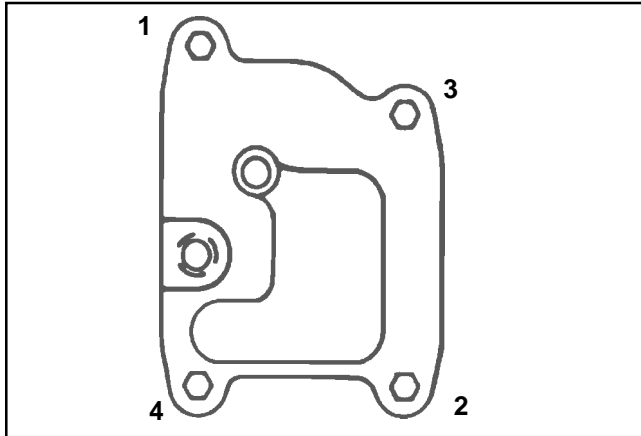

Figure 11-67. Breather Cover Fastener Torque Sequence.
7. Torque the four breather cover screws to **7.3 N·m (65 in. lb.)** in the sequence shown in Figure 11-67.